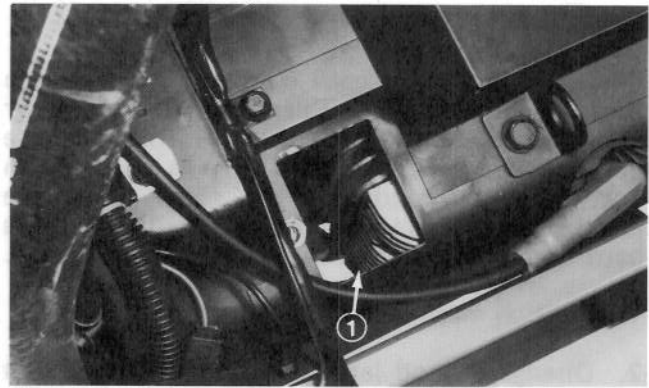

Figure 60
6. Through opening, clean dirt, grass and chaff from outside of cylinder and cylinder head fins (Fig. 60).